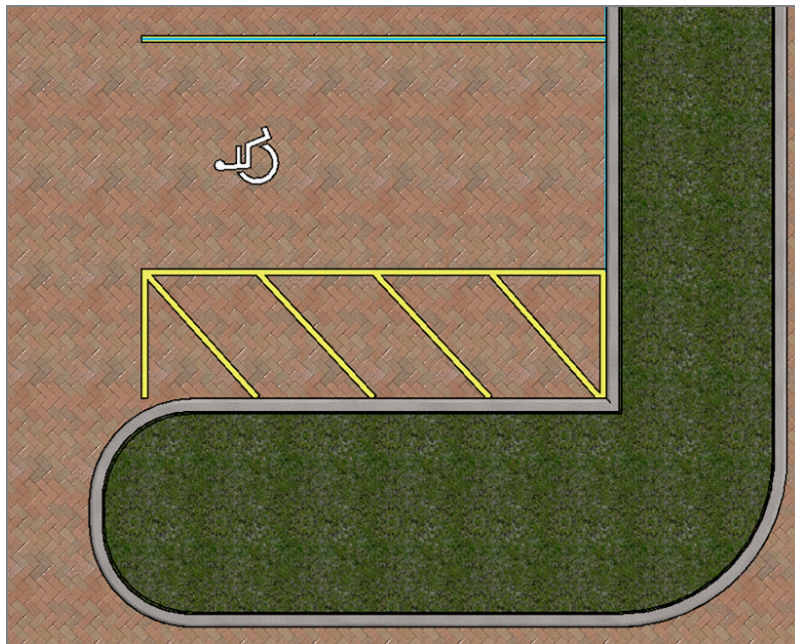

FIGURE 18.14: The ADA parking space
2. Select Parking Space - ADA 9' × 18' (5' Aisle) (2743mm × 5486mm). Place an instance as shown in Figure 18.14. Use the spacebar to rotate it properly.
4. Add Parking Symbol – ADA, and place it as shown in Figure 18.14.